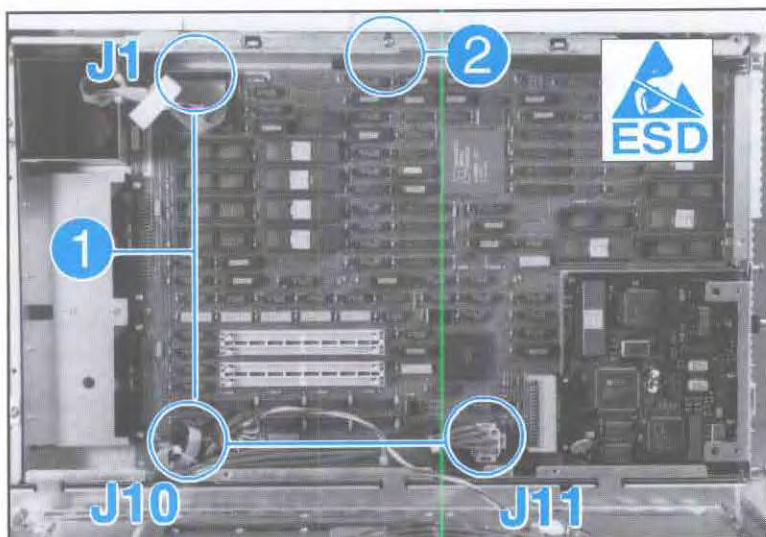
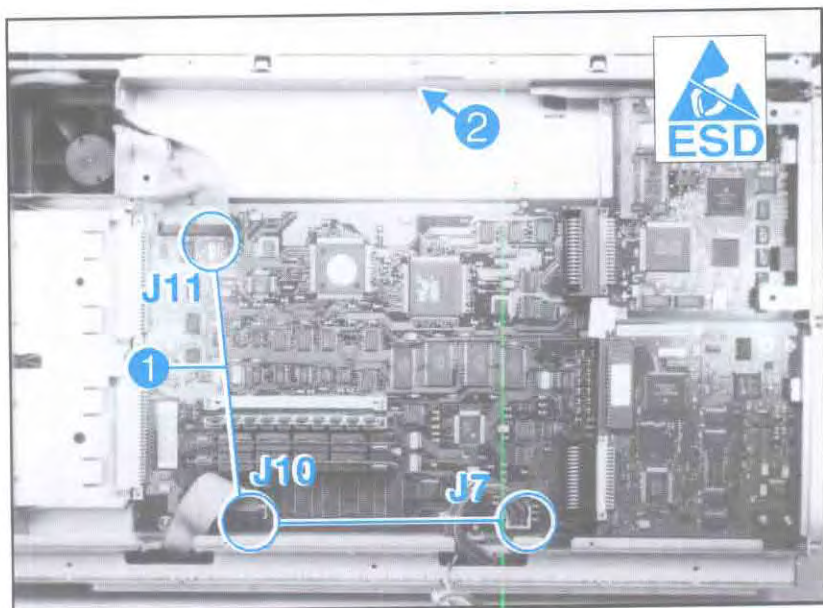

Figure 6-16. LaserJet IIISi Formatter Pan Assembly
Figure 6-17. LaserJet 4Si Formatter Pan Assembly
(See Figure 6-16 or Figure 6-17, callout 1.)
(Figure 6-16 or Figure 6-17, callout 2). Remove the assembly by pulling it from the top and tilting it out.
When removing the Formatter Pan Assembly, do not pull on the black MIO guide rails. Instead, grasp the metal frame of the Formatter Pan (see Figure 6-17, callout 3).
When replacing the Formatter Pan Assembly, do not pull on the black MIO guide rails. Instead, grasp the metal frame of the Formatter Pan (see Figure 6-17, callout 3).
3. Remove the Formatter Pan Assembly (see Figure 6-16 or Figure 6-17).
4. Remove the Formatter Pan Assembly (see Figure 6-16 or Figure 6-17).